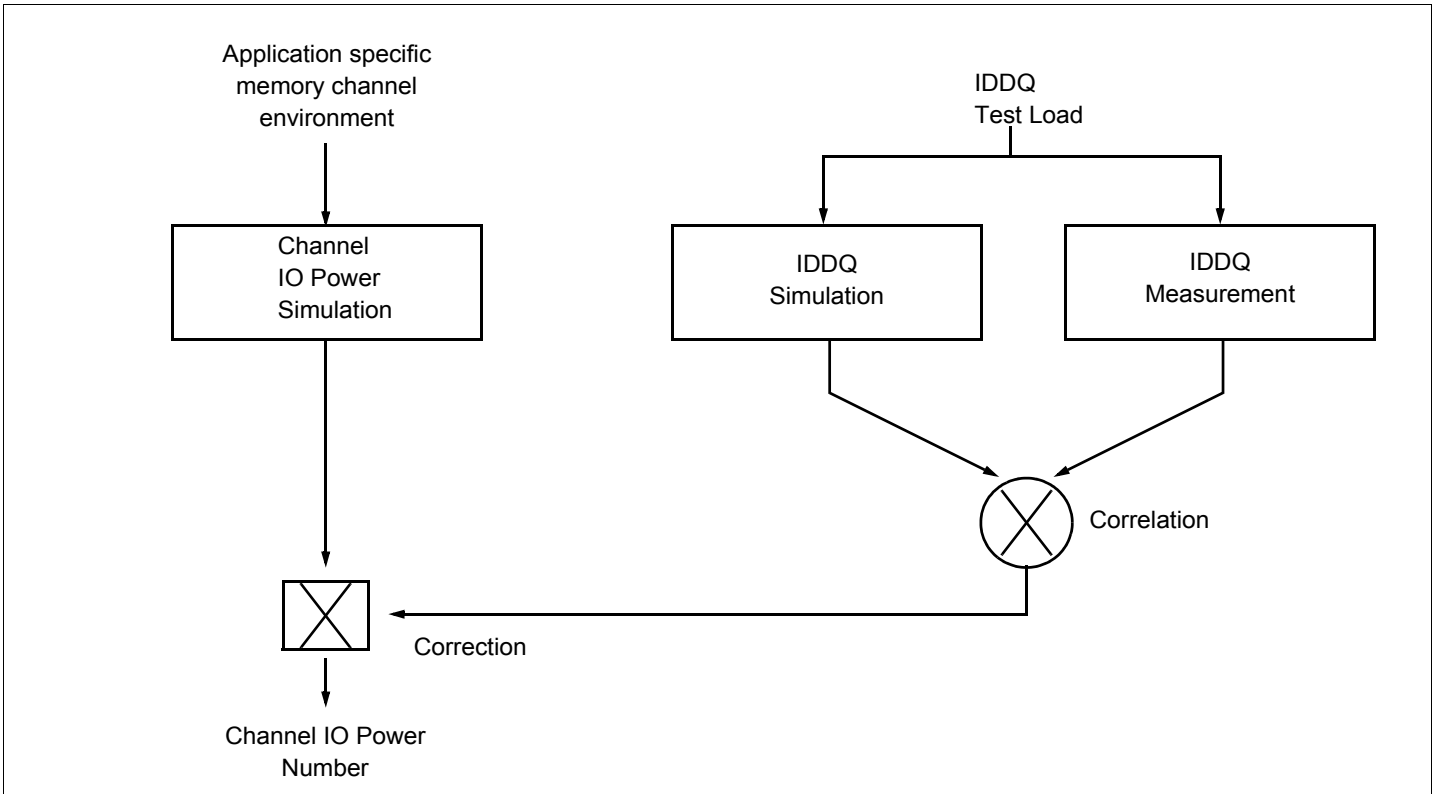

Figure 20. Correlation from simulated Channel IO Power to actual Channel IO Power supported by  $I_{DDQ}$  Measurement.
**Attention** : IDDQ values cannot be directly used to calculate IO power of the DDR3 SDRAM. They can be used to support correlation of simulated IO power to actual IO power as outlined in Figure 20. In DRAM module application, IDDQ cannot be measured separately since VDD and VDDQ are using one merged-power layer in Module PCB.